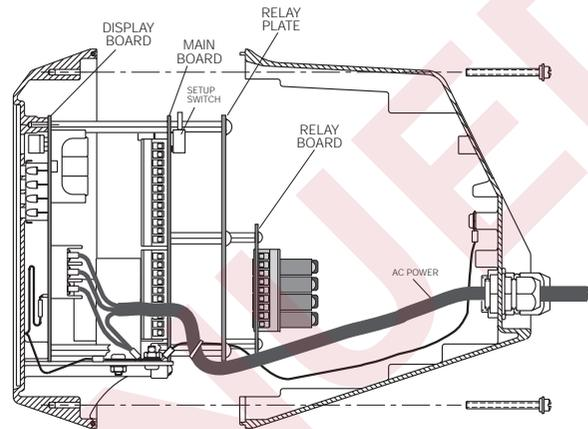

Figure 9-18. Installed 810 4-Channel Relay Board
- On the desktop models, the relay rack is mounted on a pre-drilled plate which is installed behind the CPU board using the supplied standoffs (see Figure 9-18).